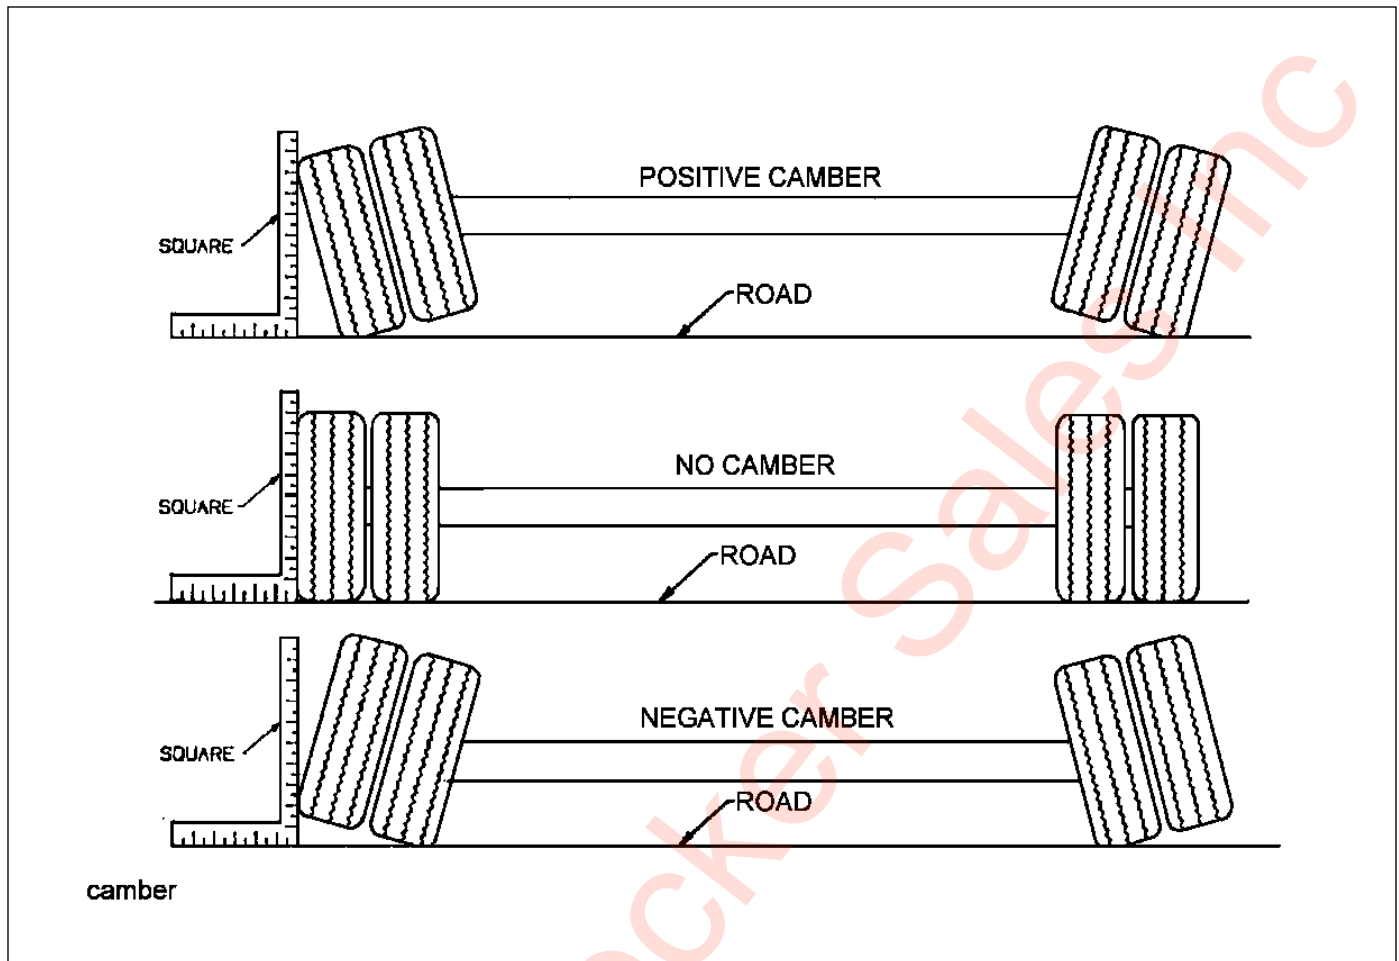

Figure 4-4: Examples of Camber
4. Follow the same procedures as in steps 2 and 3, except place the axle gauge above and below the axle. If gauge point gap is found, the axle has positive or negative camber. The trailer axle has no camber from the factory. If it is found to have positive or negative camber, axle replacement is necessary (See Figure 4-4 for examples of camber).